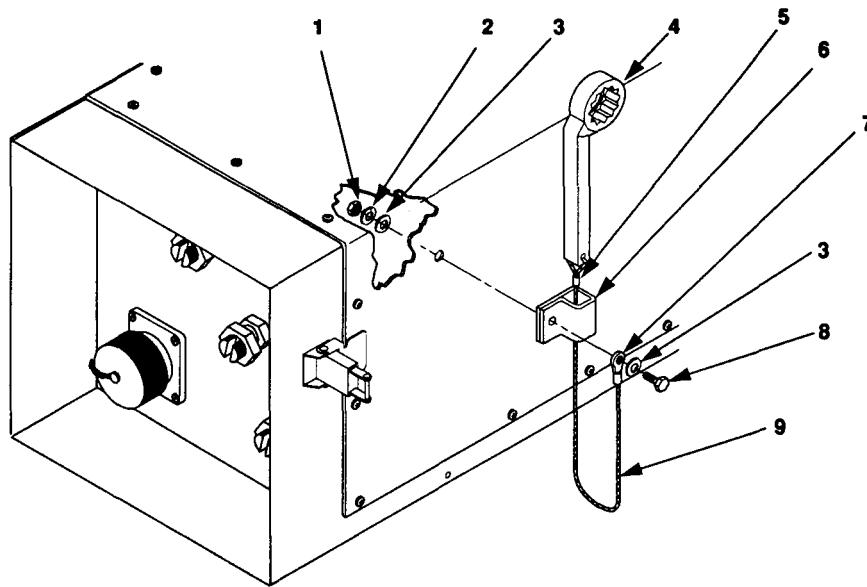

Figure 4-10. Switch Box Load Terminal Wrench Assembly Replacement.
2. Remove nut (1, figure 4-10), lock washer (2), and flat washer (3). Discard lock washer.
3. Remove screw (8), flat washer (3), loop clamp (6), and box wrench (4) with attached rope (9).
- 1. Place the loop clamp (6) so that mounting holes are in alignment with switch box cover holes.
- 2. Drop terminal lug end of rope (9) with box wrench (4) through loop clamp (6) as shown in figure 4-10.
- 3. Install screw (8), two flat washers (3), one terminal lug (7), new lock washer (2), and nut (1) that secures loop clamp (6) to switch box cover.